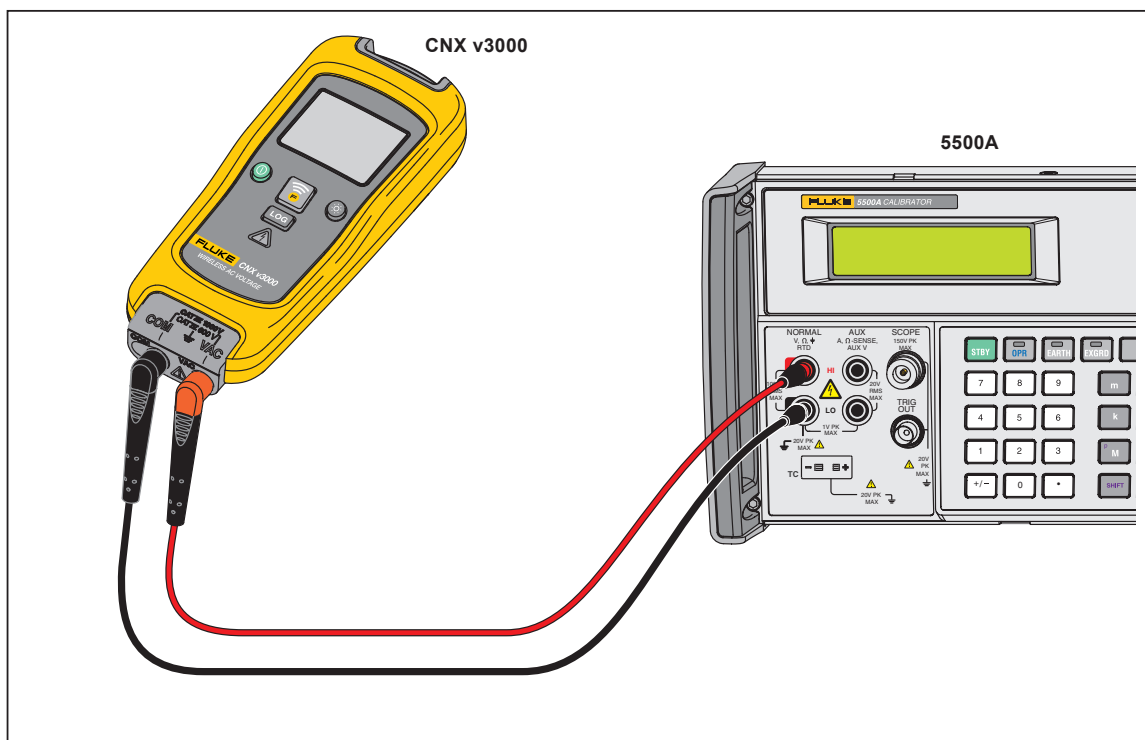

Figure 2. Performance Test Connections
1. Connect the Product to Calibrator COM and VAC jacks. See Figure 2.